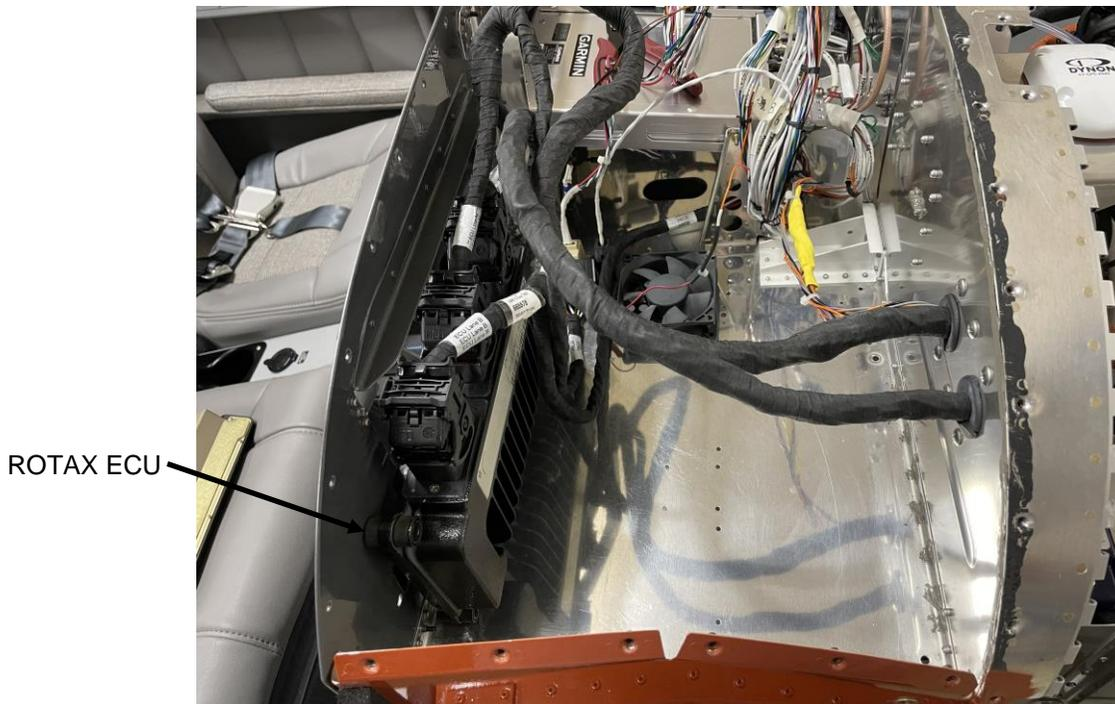

FIGURE 1: ROTAX ECU REMOVED FROM F-01202B-1 PANEL BASE
Step 3: Cut all zip ties restraining the ROTAX ECU harness. Remove the fasteners and move the ROTAX ECU out of the way as shown in Figure 1.